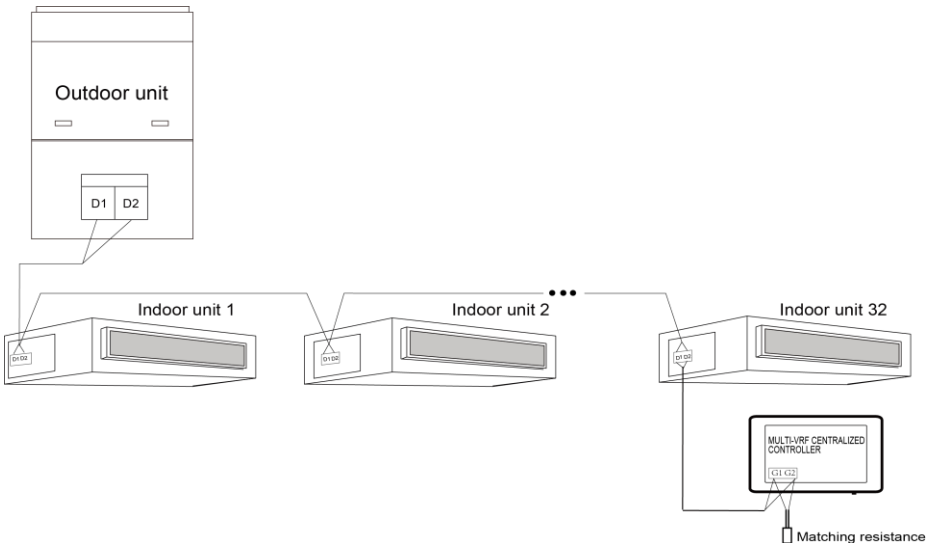

Fig.3.4 Centralized Controller Connected with Indoor Network
- ① The smart centralized controller is applicable to multi VRF units, connectable with network of indoor units or the network of outdoor units or mode converter network. One centralized controller can control up to 16 sets of outdoor system and up to 32 sets of indoor unit.
- ② If the centralized controller is to be connected with the network of indoor units, connect according to fig.3.4. The controller can connect with any one indoor unit in series, that is, connect the controller's G1 and G2 ports with the D1 and D2 ports correspondingly with communication cords. When the controller is connected with the terminal unit of indoor network, a matching resistance needs to be added with the communication cords at the G1 and G2 ports.